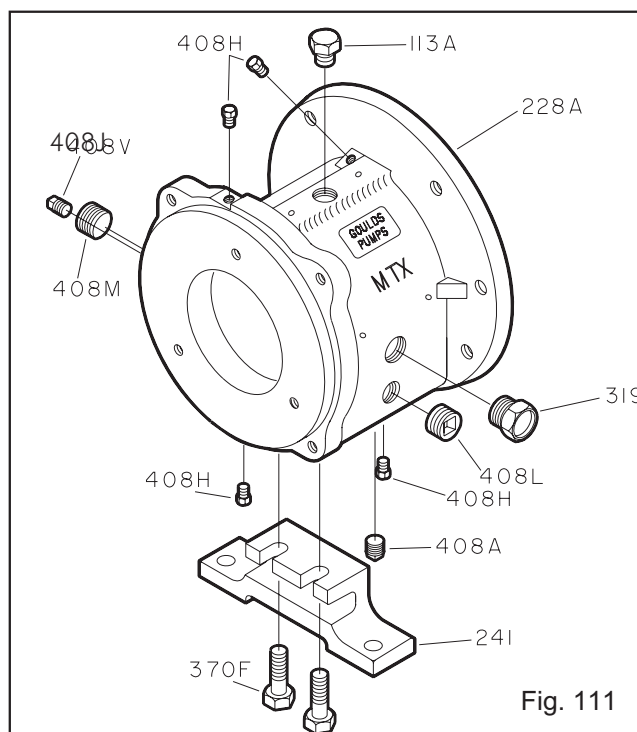

Fig. 111
1. Install oil fill plug (113A), oil drain plug (408A), sight window (319), sight oiler plug (408J), four oil mist connection plugs (408H) or grease fittings (193) and relief plugs (113), and oil cooler inlet and outlet plugs or oil cooler (408L, 408M) in bearing frame (228) (Fig. 111).
2. Attach bearing frame foot (241) with bolts (370F). Hand tighten.